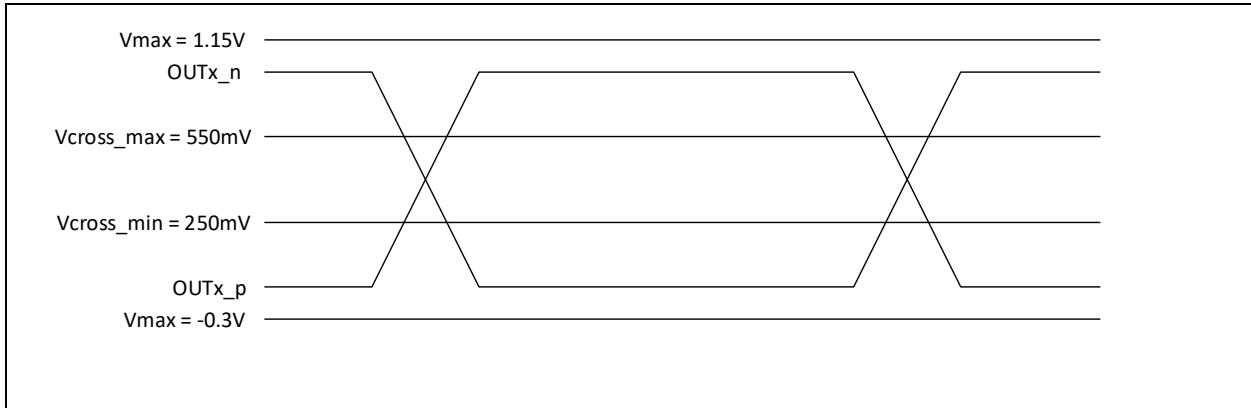

Figure 15. Single-Ended Measurement Points for Absolute Cross Point and Swing
(4) Measured at crossing point where the instantaneous voltage value of the rising edge of CK equals the falling edge of CK#. See Figure 15
(5) Refers to the total variation from the lowest crossing point to the highest, regardless of which edge is crossing. Refers to all crossing points for this measurement. See Figure 15.
(6) This requirement, from PCI Express Base Specification, Revision 4.0 is applicable only to clock generators and not to buffers. A clock buffer is a transparent device whose output clock period follows the input clock period.
(7) Defined as the maximum instantaneous voltage including overshoot. See Figure 15.
(8) Defined as the minimum instantaneous voltage including undershoot. See Figure 15.